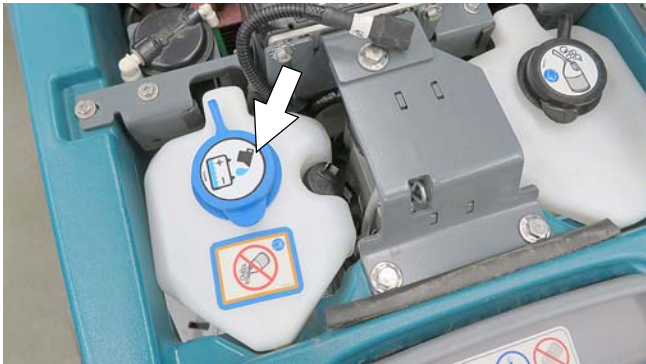

FIG. 29
- Lift the recovery tank to access the automatic battery watering tank (Figure 29). Drain recovery tank before lifting tank.